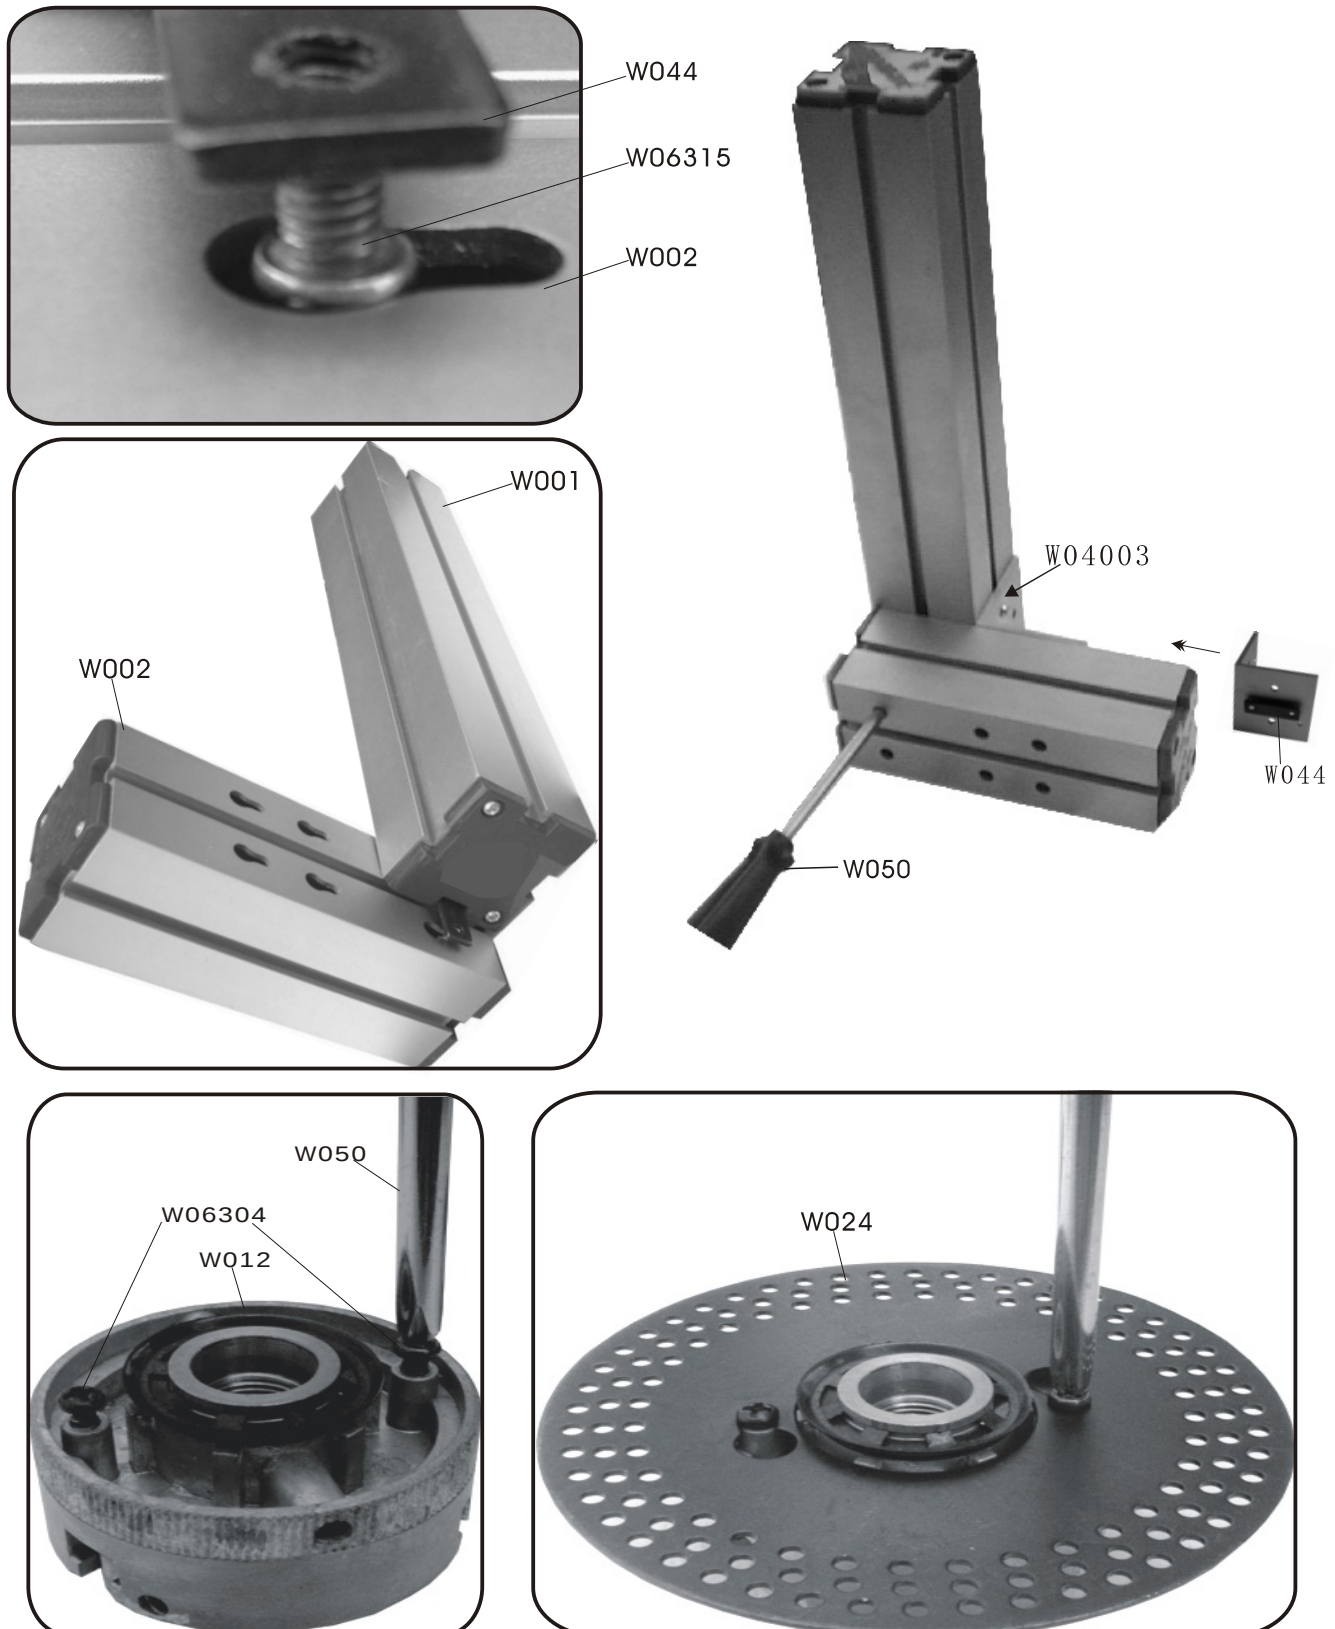

Fig.30
As Shown Fig. 30 and 31 and 32:
- ☞ Fix wheel gear box (W007) on slide-larger slide unit(M2) with two connection pieces, the end with gear wheel of wheel gear box must be pointed to right as shown Fig.30.